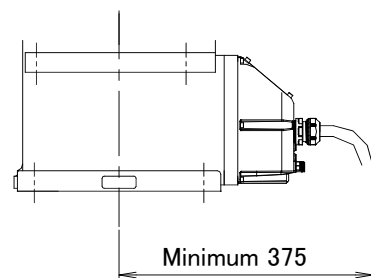

Fig.2-33 : Fixing the flexible cable
- (1) Connect the connector to the robot arm.
- (2) Wind the silicon rubber around the cable at a position 300 to 400 mm from the side of robot arm and drive unit as shown in Fig. 2-33, and fix with the nylon clamp to protect the cable from external stress.